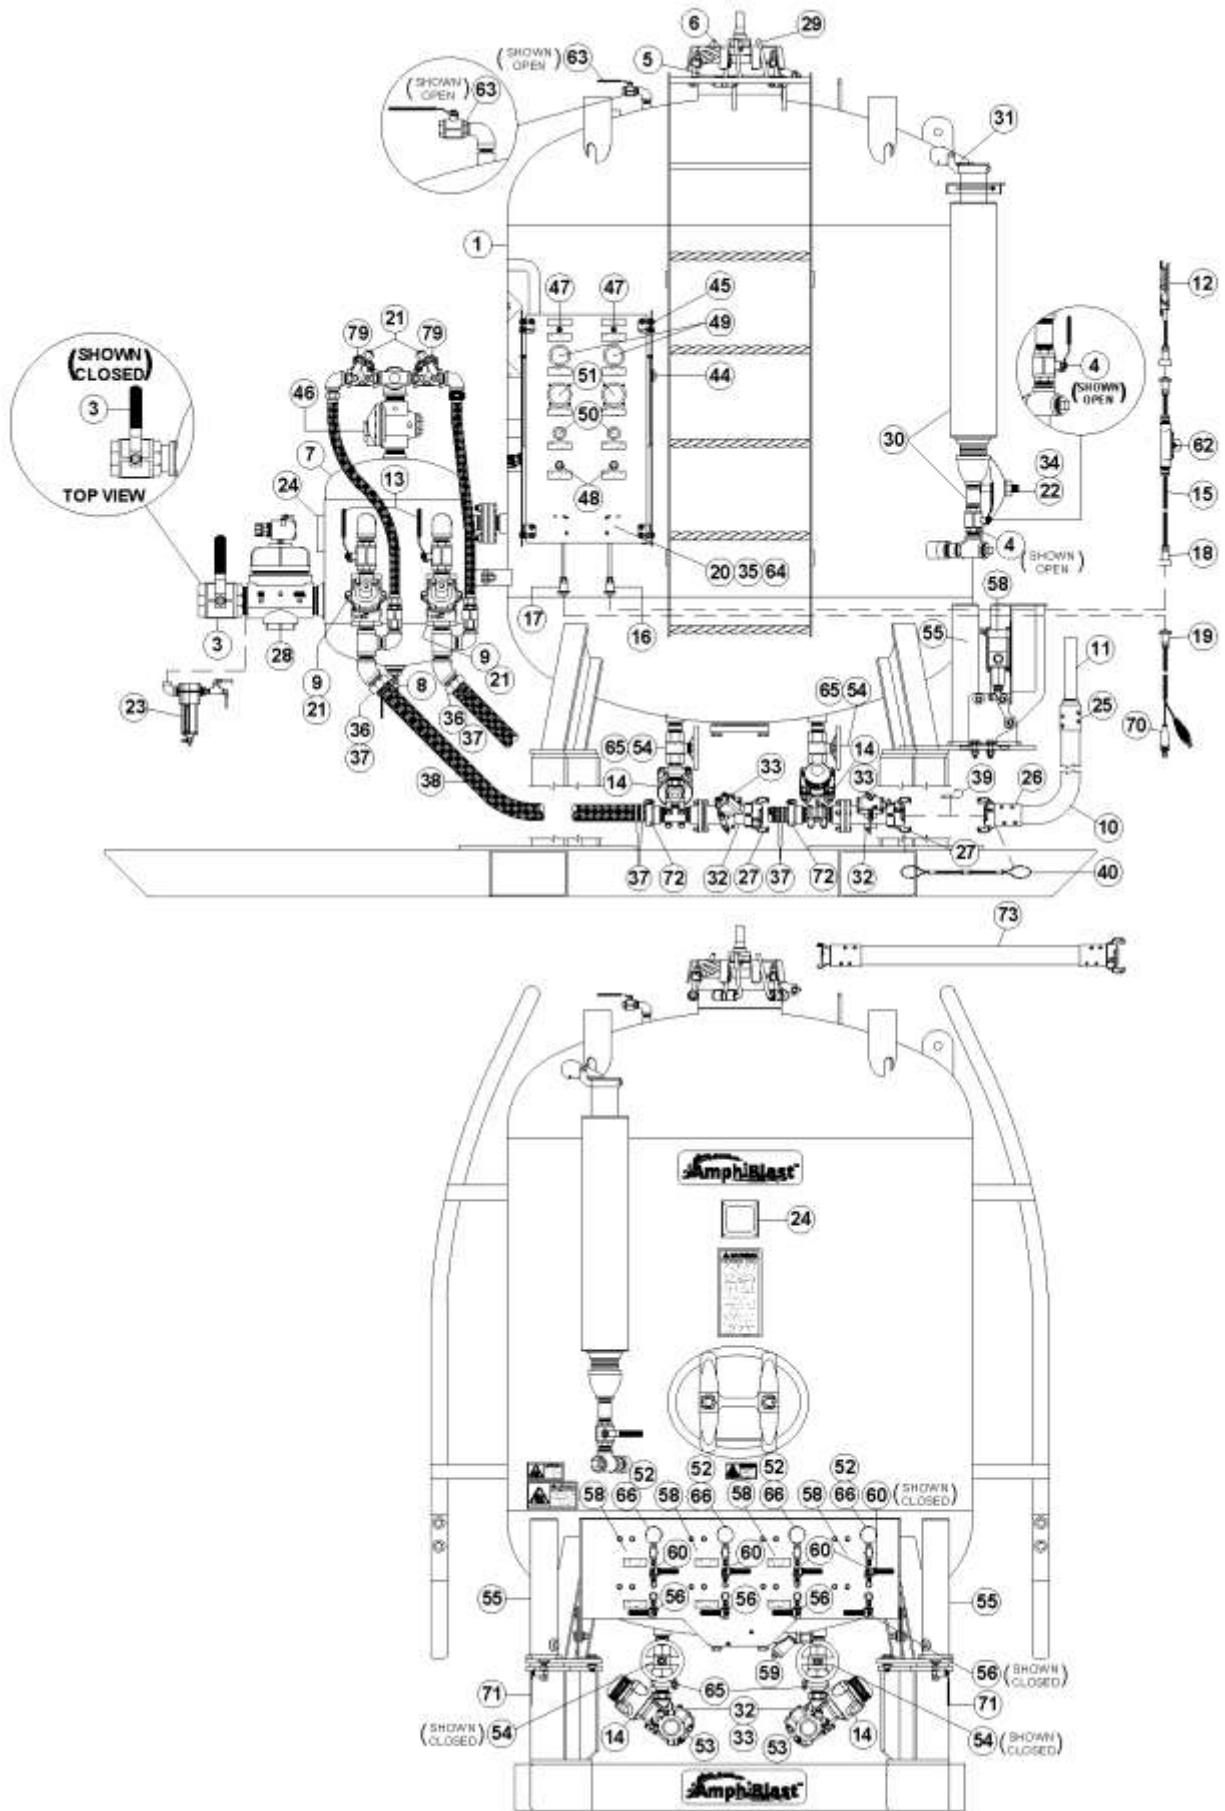

Figure 7.1 – Typical Bulk AmphiBlast™ With Electric Controls
- 7.4.7. Close the blowdown ball valve (#4). The ball valve is closed when the handle is perpendicular to the body (See Figure 7.1).
- 7.5.9. Close the blowdown ball valve (#4). The ball valve is closed when the handle is perpendicular to the body (See Figure 7.1).
- 7.6.9. Close the blowdown ball valve (#4). The ball valve is closed when the handle is perpendicular to the body (See Figure 7.1).
- 7.9.1. Close the air inlet ball valve (#3). The ball valve is closed when the handle is fully turned to the position shown in Figure 7.1 (handle perpendicular to body). The handle tab will bottom against the ball valve body in the closed position.